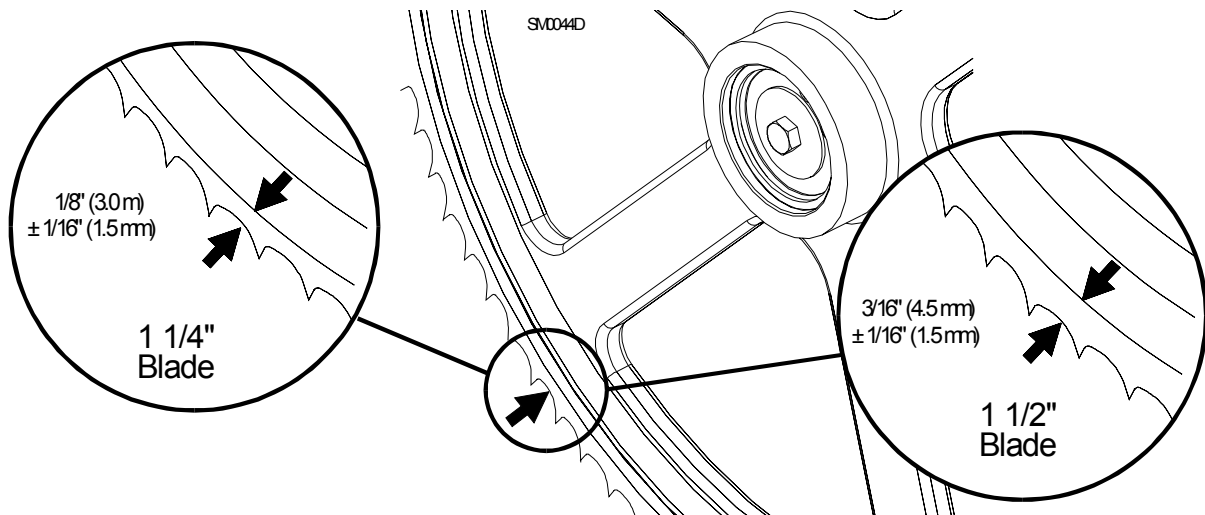

FIG. 2-6
**See Figure 2-6.** Position 1 1/4" wide blades so the gullet is 1/8" (3.0 mm) out from the edge of the blade wheel ( $\pm 1/16$  [1.5 mm]). Position 1 1/2" blades so the gullet is 3/16" (4.5 mm) out from the edge of the blade wheel ( $\pm 1/16$  [1.5 mm]).